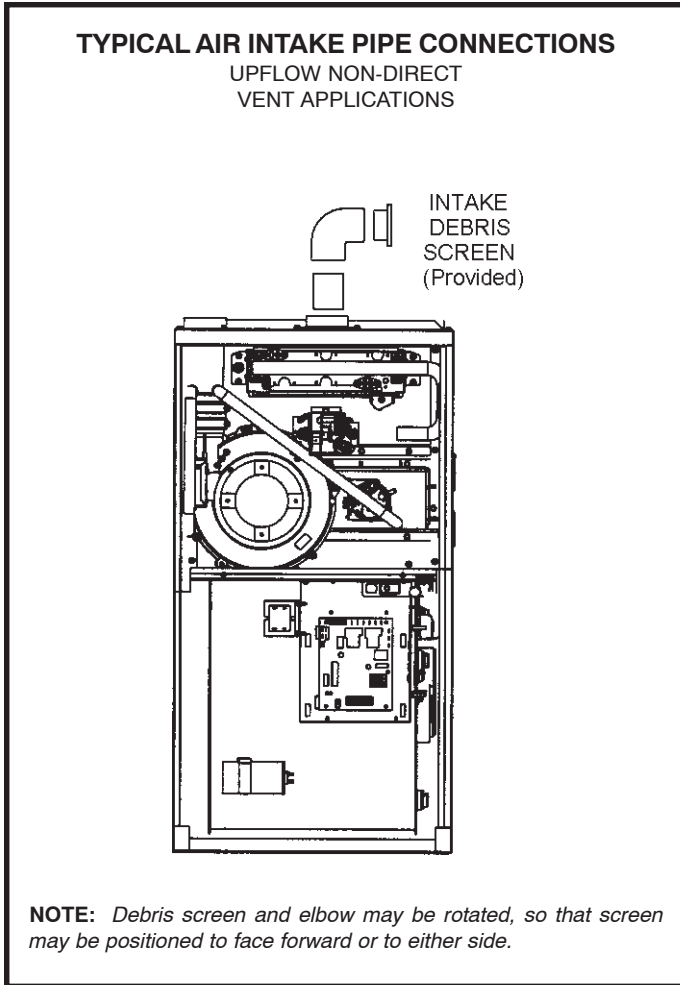

Figure 26
1. Use field-provided materials and the factory-provided air intake screen to route the intake piping as shown in figure 26 or 27. Maintain a minimum clearance of 3" (76 mm) around the air intake opening. The air intake opening (with the protective screen) should always be directed forward or to either side in the upflow position, and either straight out or downward in the horizontal position.